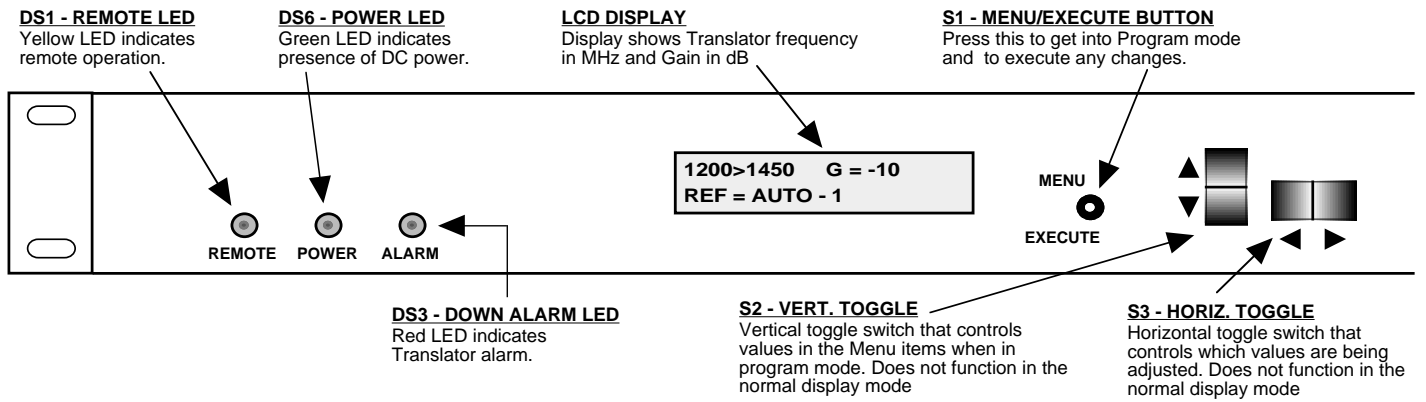

FIGURE 2.3 2083-1012 Front Panel Controls and Indicators
5. Be sure DS6 (green, DC Power) is on and DS (red, Alarm) is off (Figure 2.3).
Alarm indications appear on the LEDs (See figure 2.3).